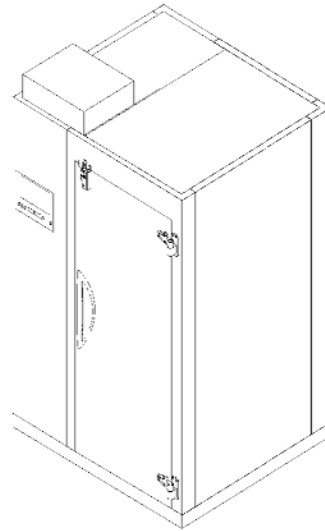

Fig 12
9. Re-hang the door on the doorjamb. (Reverse the procedure of removal) (Fig. 12)